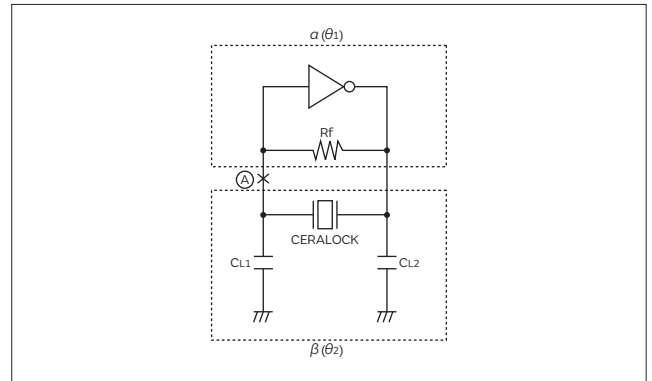

Fig. 2-8 Basic Oscillation Circuit with Inverters
Fig. 2-8 shows the basic oscillation circuit with inverter. In an open loop circuit by cutting at point (A), it is possible to measure loop gain G and phase shift θ .